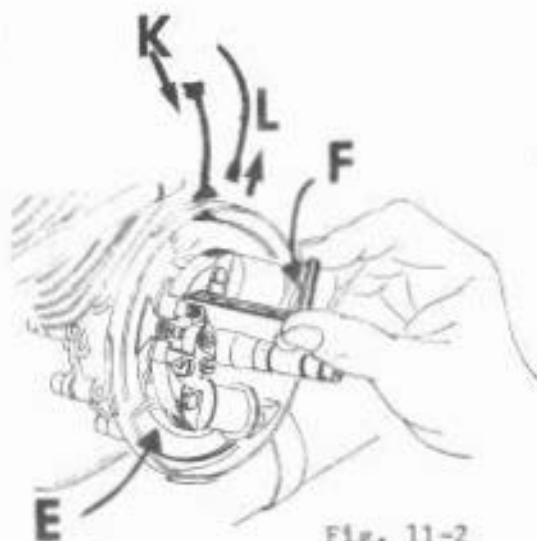

Fig. 11-2
- 1) Disconnect the ignition wire (small wire with spade terminal) from the coil under the fuel tank and the lighting wire at stator plate (also spade terminal) "K" and "L" Fig. 11-2.
- 4) To remove stator plate "E" Fig. 11-2 simply remove the three Allen type screws using 4 mm hex key, see "F" Fig. 11-2.